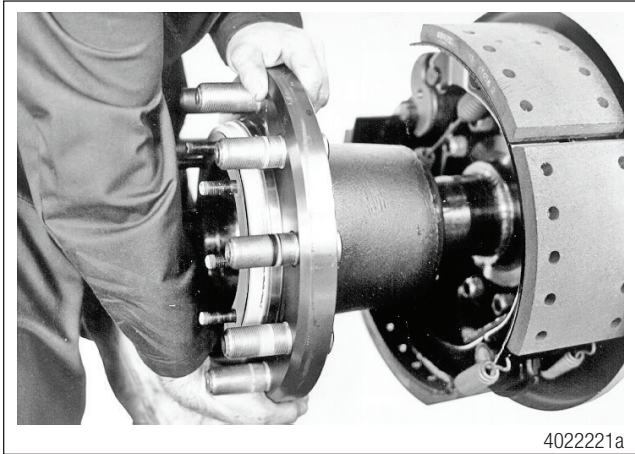

Figure 17
13. Remove the hub from the spindle, pulling the assembly straight out to avoid cocking the inner bearing cone. If the cone binds against the spindle, try rocking the hub to free it. It may be necessary to use a pry bar under the inner surface of the hub to free it. To avoid damaging the inner seal, pry against the hub only. Figure 17.